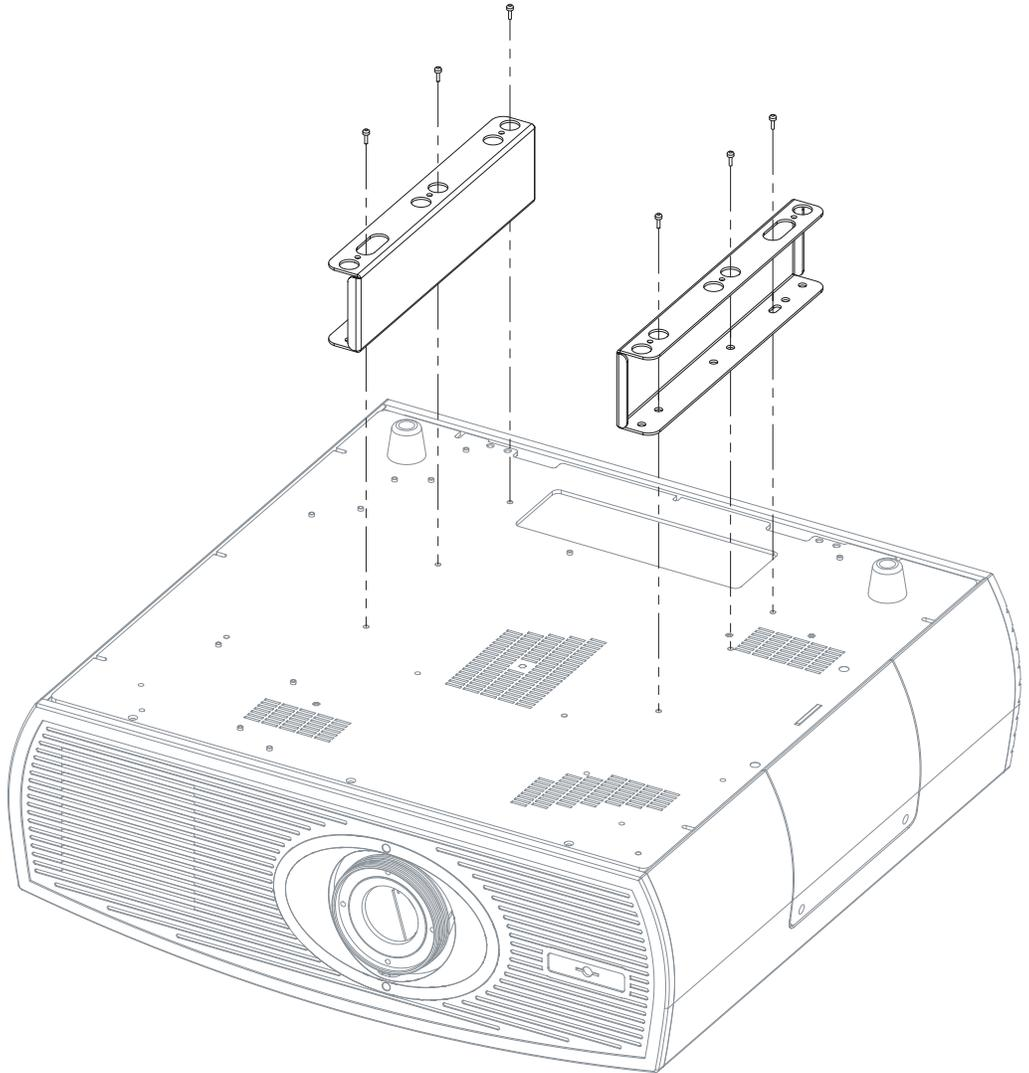

Figure 3-7. Vision 85 with Ceiling Mount Adapters/Projector Stands
Using six (6) each of the supplied, 10-32 x 1/2" Pan-Head Phillips screws (item #2), attach the AutoScope Ceiling Mount Adapters/Projector Stands (items #3 and #4) to the projector as shown in Figure 3-7.